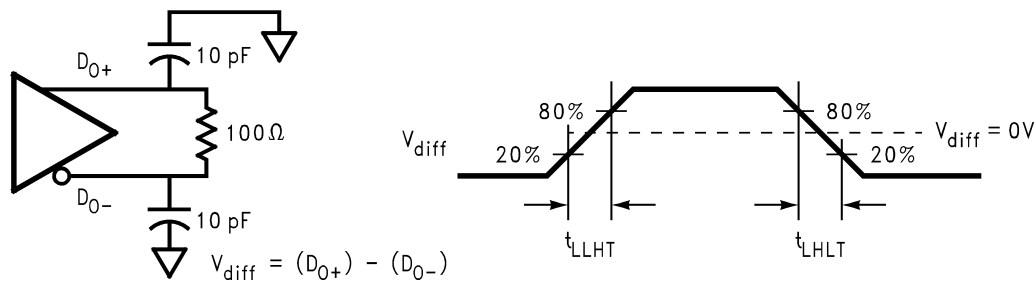

Figure 2. Serializer Bus LVDS Output Load and Transition Times
| t LLHT | Bus LVDS Low-to-High Transition Time               | R L = 100ΩC L =10pF to GND (3)<a href="#">Figure 2</a> | DOn+, DOn-   | 198                    | 236                    | 400                  | ps    |